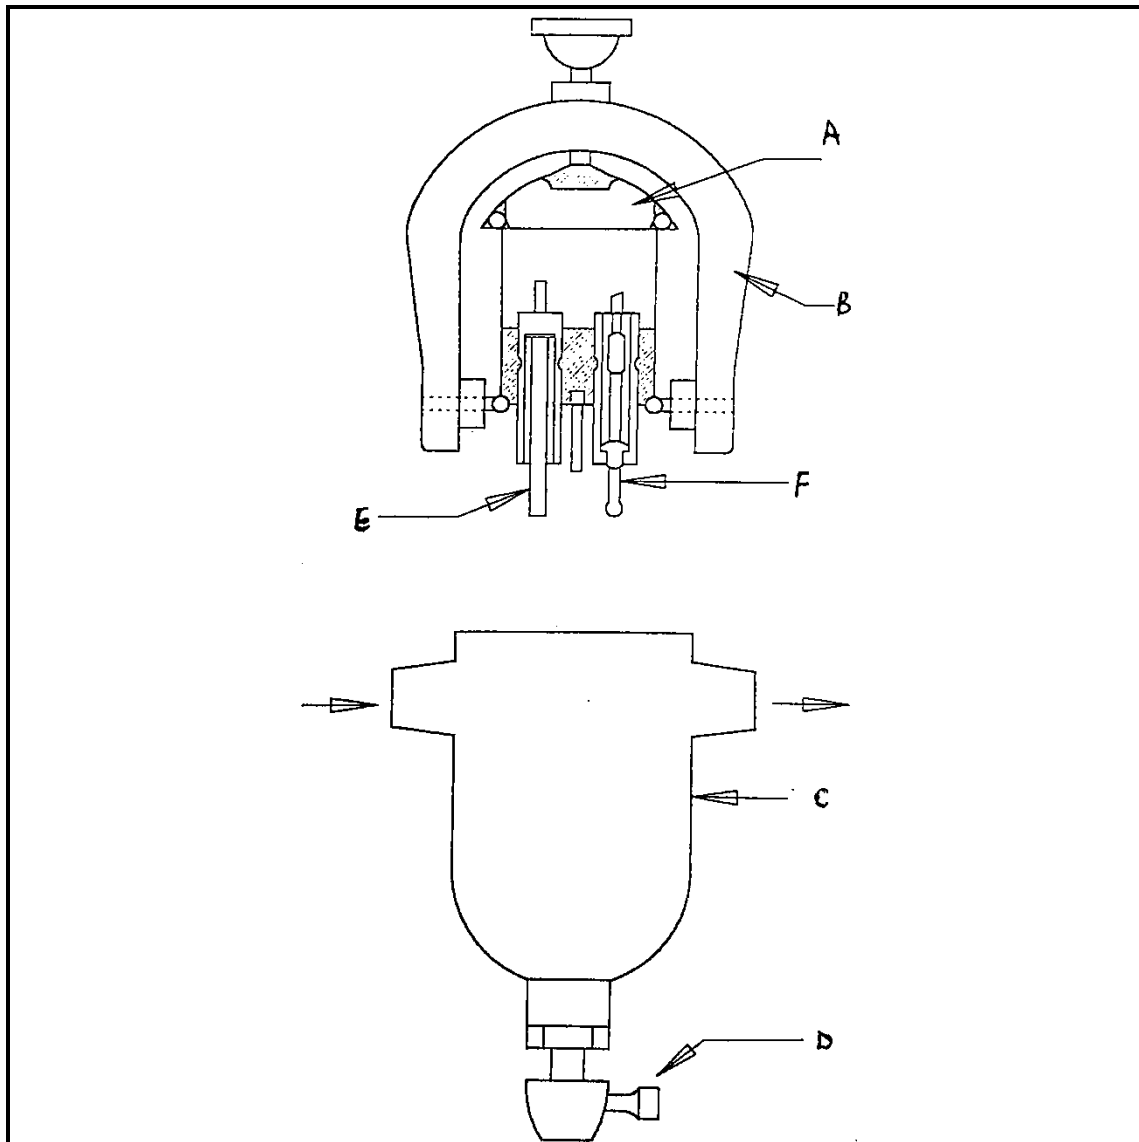

FIGURE 2
4.2.1 Which type of electrode system used in industrial processes is shown in FIGURE 2?